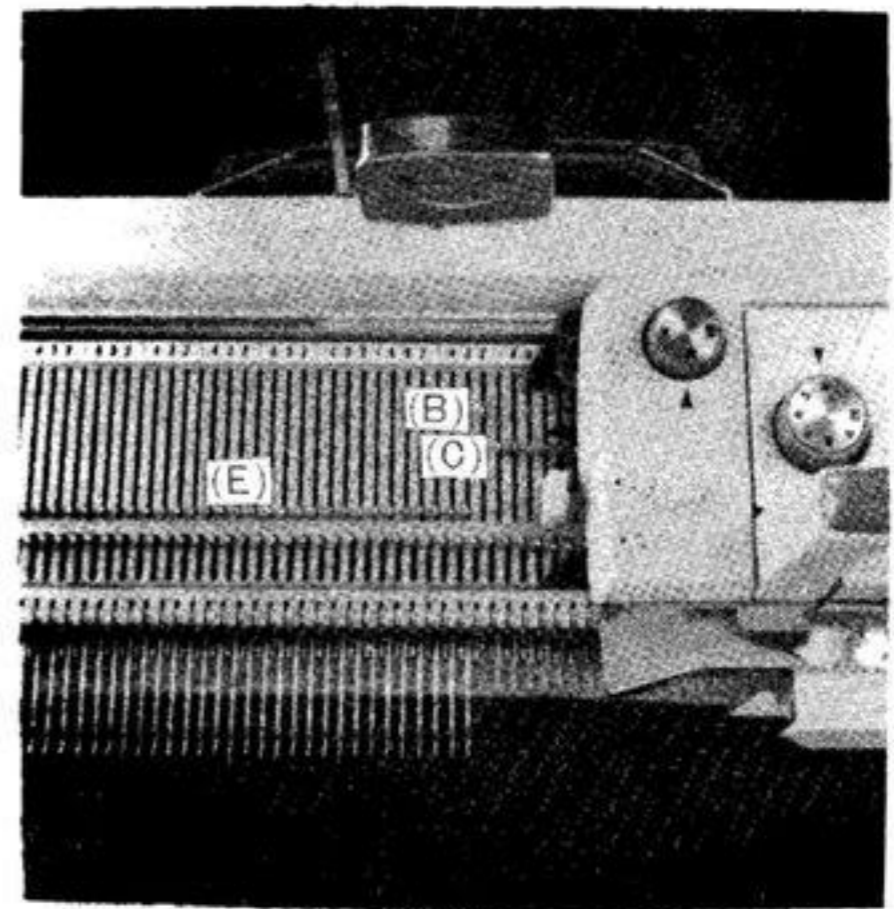
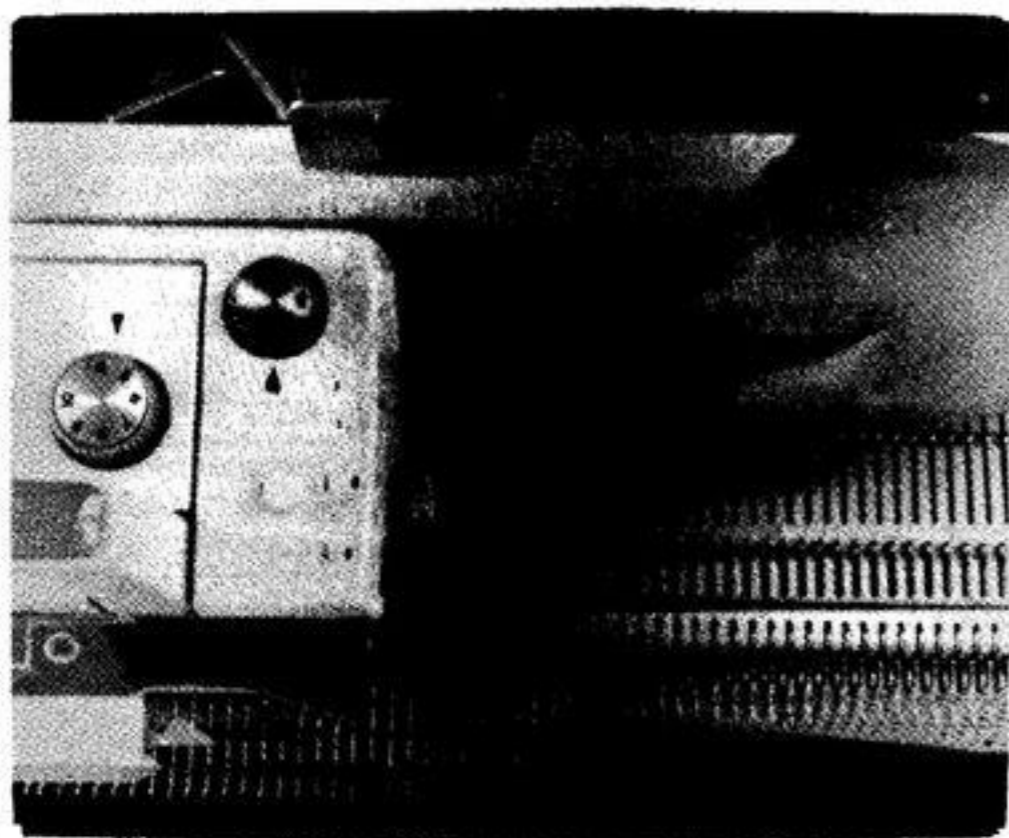

Fig. 53
Fig. 54
- (b) At the opposite end to the Carriage bring forward into the Holding Position (E) the required number of needles except the last inside needle which should be pushed back into Position (B) (Fig. 53). Knit 1 row and bring this last
working needle — nearest the needles in the Holding Position (E) — forward to Position (E) (Holding Position) (Fig. 54). Knit 1 row.
- (c) * Push the **inside end** needle, of those in Working Position (C), back to Position (B) (Fig. 53). Knit 1 row. Now bring this end needle forward to Position (E) (Fig. 54) Knit 1 row *
- (b) At the opposite end to the carriage bring forward from Working Position (C) into Holding Position (E) the required number of needles (Fig. 53) — Knit 1 row.
- (c) * Bring forward from Position (C) into Position (E) the inside end needle (Fig. 54) — Knit 1 row. Push back into Position (D) the required number of needles (2 or more) at the inside end of the needles in Position (E) — knit 1 row *